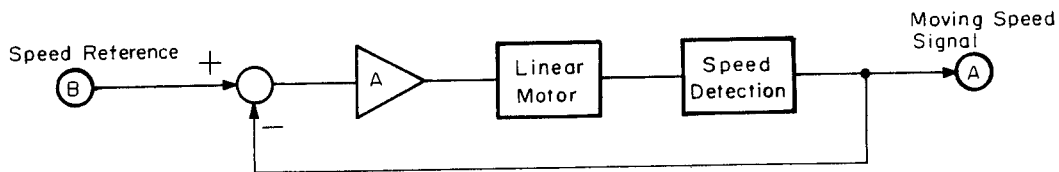

Fig. 2-1
The voltage at point (B) is the same as the voltage driving the pickup carry motor in a conventional mechanism and can be represented to a servo block diagram as shown in Figure 2-1, which manifests a direct feedback system.